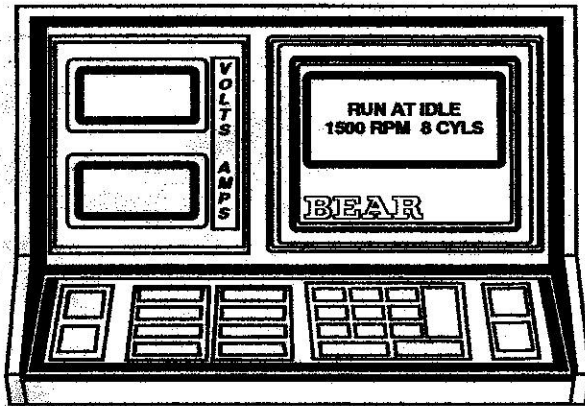

Figure 16
- D. After 10 seconds, the display reads "RUN AT IDLE" (see Figure 16). Reduce engine speed to idle. When the computer detects idle speed, display reads "MAINTAIN IDLE."